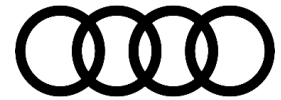

Figure 3. Lithium grease is applied on the red highlighted area only.
2. Evenly grease the kidney-shaped slits of the bonded rubber bushing (Figure 3, the area shown red) from above with 0.1g of lithium grease (part number G 052 150 A2). Use a paintbrush to apply the grease.
The lithium grease must only be applied to the areas shown in red (Figure 3).